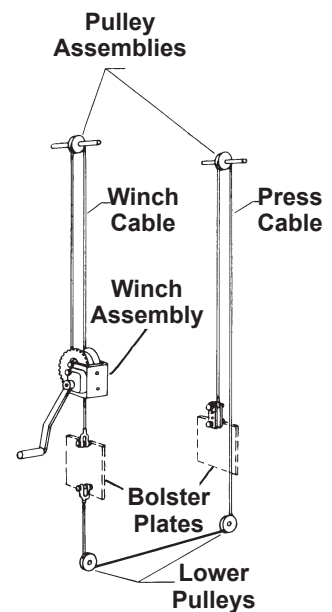

Figure 1
1. Place the lower bolster (Item 29, sheet 1 of 2) on two wood blocks (4x4s approximately 24 in. long). Place blocks perpendicular to the bolster. **IMPORTANT: Make sure the cable attachment holes in the bolster plates are facing up. See Figure 1, to the right.**
2. Attach foot (26) and lower pulley bracket (35) to left-hand upright (27) using cap screws (25) and hex nuts (8).
3. Slide the left-hand upright between the lower bolster assembly (29) until the upright is tight against the bolster plate.
4. Slide right-hand upright (21) between lower bolster assembly (29) until upright is tight against the bolster plate and pulley bracket (35). Then attach foot (26) to right-hand upright (21) and lower pulley bracket (35) using cap screws (25) and hex nuts (8).
5. Mount one of the upper bolsters (3) to top of the uprights (27 and 21) using bolster bolts (5) and hex jam nuts (4). *NOTE: The mounting holes in the upper bolsters for the ram assembly (15) must be facing down.*
6. To install bolster lifting mechanism, insert pulley axles (1) through one side of the middle holes in the press uprights, place pulleys (2) on axles, then push shafts into holes in other side of press uprights. *Note: Once assembly of the press is complete, lubricate both axles using a general purpose grease.*
7. Mount remaining bolster to uprights using bolster bolts (5) and hex jam nuts (4). This will hold pulleys (2) and axles (1) in place.
8. Fasten winch cable (9) to winch assembly (23), then attach winch assembly to left upright (27) using cap screws (11) and washers (2). Tighten cap screws securely.
9. Feed winch cable (9) over pulley, then attach end of cable to the top hole in the left bolster lifting plate using a cap screw (16) and hex nut (13).
10. Attach press cable (10) to lower hole in the left bolster lifting plate using cap screw (16) and hex nut (13).
11. Lay press cable (10) in center of lower lifting bracket (35), then install pulleys (24) with clevis pins (33), and secure with cotter pins (32). *Note: Once assembly of pulleys is complete, lubricate both clevis pins using a general purpose grease.*
12. Thread cable over upper right pulley (2) and attach to right bolster lifting bracket with cable straps (20), cap screws (18), and locking nuts (13). (See Fig. 1 Cable Threading Diagram.) *NOTE: When attaching cable, place cable attachment eye over center hole of cable straps (20).*
13. Raise and lower bolster assembly to make sure winch and cable operate smoothly and freely. Next, raise bolster just enough to install the two bolster pins (34) through the uprights. Then lower the bolster onto the bolster pins. *Note: Once the bolster is resting on the pins (34), make sure there is slack in the press cable (10). If bolster assembly does not operate freely, or there is no slack in the press cable when the bolster is resting on the pins, reposition the cable on the cable attachment eye (up or down as necessary) until bolster operates freely and there is slack in the cable. Once bolster operates freely and cable is adjusted correctly, remove the two support blocks and wrench tighten all hex nuts (13).*
14. Attach pump mounting bracket (22) to right-hand press upright (21) using cap screws (31) and hex nuts (30).
2. Thread the hydraulic cylinder (15) into the cylinder mounting plate (14). Refer to Figure 1. **IMPORTANT: The threads of the cylinder must be flush with the bottom of the mounting plate for full thread engagement.**
3. Place the cylinder assembly on the lower bolster assembly (29). **IMPORTANT: The pipe plug on the cylinder must face the pump side of the press frame.**
4. By operating the winch mechanism, raise the cylinder assembly to the upper bolster (3). Block the cylinder assembly if additional height is needed so the cylinder will reach the upper bolster when the lower bolster is raised.